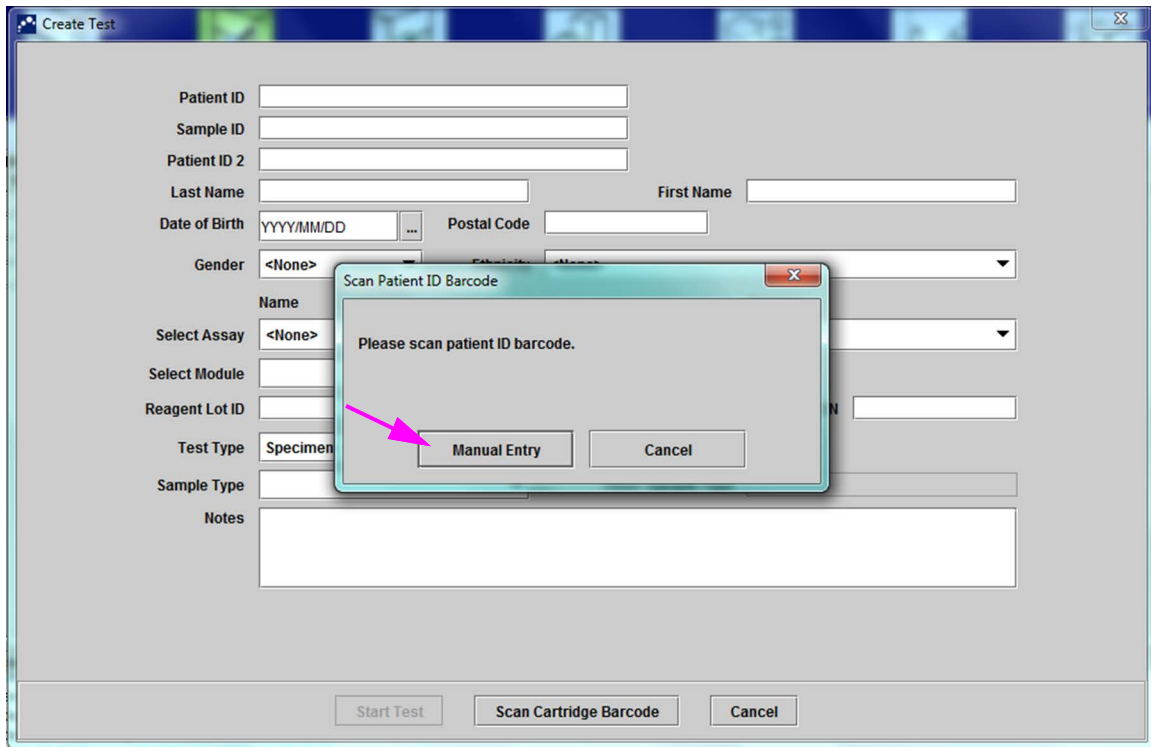

Figure 5-17. Create Test Window and Scan Patient ID Barcode Dialog Box
1. In the GeneXpert Dx System window, click **Create Test** on the menu bar. The Scan Patient ID Barcode dialog box appears. See Figure 5-17.